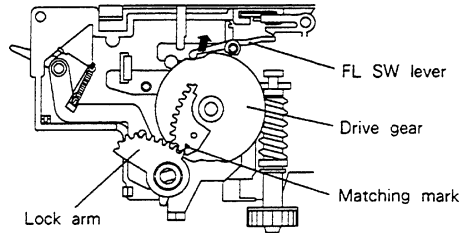

Fig. 2-2
- B. Turn the FL SW lever clockwise to separate the FL SW lever from the drive gear, and pull the lock arm and drive gear to remove them from the shaft as shown in Fig. 2-2.
- Install the drive gear on the shaft as shown in Fig. 2-2.
- Line the matching mark on the drive gear and beginning of gear section on the lock arm as shown in Fig.2-2, and install the lock arm.